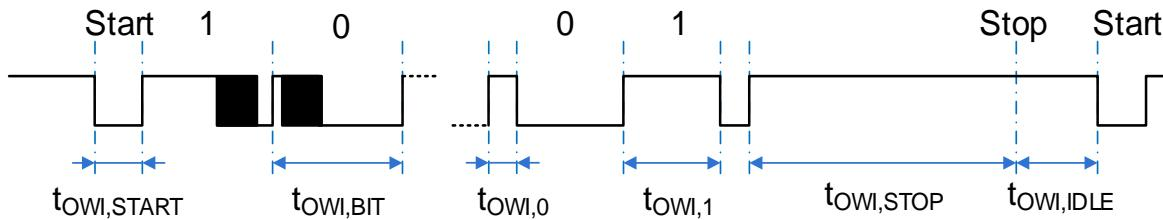
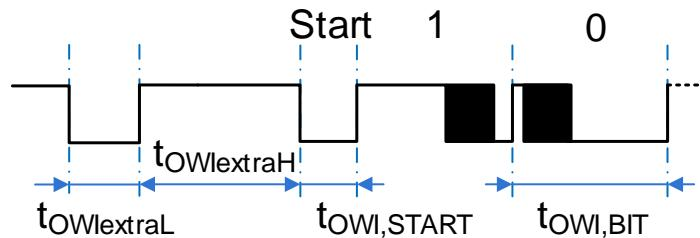

Figure 15. OWI Timing Diagram
Figure 16. OWI Extra (Activation) Pulse for Concurrent OWI and Analog Output Configuration
- **Valid Data:** Data is transmitted in bytes (8 bits) starting with the most significant bit (MSB). Transmitted bits are recognized after a start condition at every transition from low to high at the OWI line. The value of the transmitted bit depends on the duty ratio between the high phase and high/low period (bit period, $t_{OWI,BIT}$ in Figure 15). A duty ratio greater than 1/8 and less than 3/8 is detected as 0; a duty ratio greater than 5/8 and less than 7/8 is detected as 1. The bit period of consecutive bits must not increase to more than 1.5 times the previous bit period or decrease to less than half of the previous bit period because a stop condition is detected in this case.
OWI protocol timing and parameters are specified in Figure 15, Figure 16, and Table 24.
- **Continuous OWI and Analog Output:** The configuration *owi_off* = 0, *cont_ANAoutn* = 0, and *owi_su_case* = 1 results in AOUT providing analog output levels as soon as they are available after power-up (in Cyclic Mode). Concurrently, the OWI listens to the AOUT¹ pin in order to check for valid OWI commands. The OWI still needs to be enabled by means of the *Startup OWI* command. The physical protocol in this configuration requires an extra pulse (see Figure 16) prior the *Startup OWI* command. After the release of the extra OWI initialization pulse, the analog output is switched off² and AOUT becomes the OWI I/O pin until the OWI startup window (according to *owi_su_length*) has elapsed. The OWI-master implements *Dynamic Driving* to avoid dynamic currents (due to DAC-output level changes) causing unwanted pull-up signal generation (via *Rowi,PULL*). When *Dynamic Driving Approach* is not applied in this configuration, set the constantly connected OWI-master pull-up resistances (*Rowi,PULL*) to $\geq 5.5\text{k}\Omega$ to prevent erroneous OWI-start detections that can be triggered by changing DAC-output levels. Limit the interface speed to slower values with the proper setting, such as longer bit period.